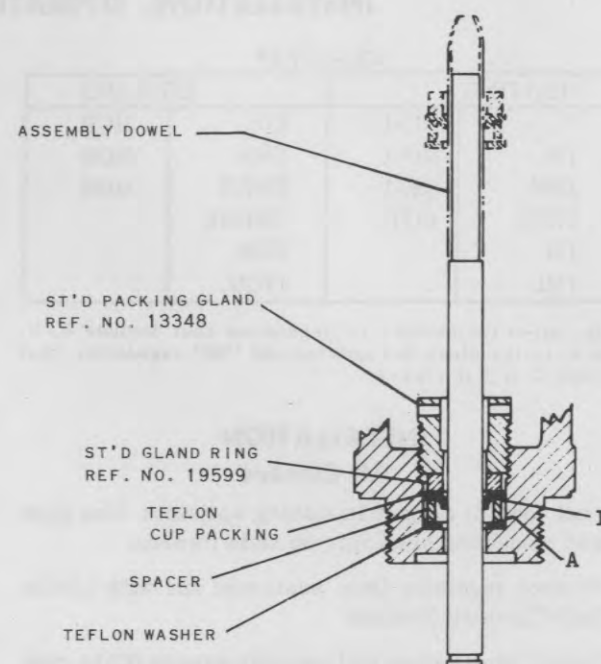

FIG. 2 Assembled Teflon Stuffing Box
3. Replace valve stem in bonnet and assembly dowel over stem. Slide washer, spacer, cup packing and gland ring as shown in Fig. 2 over stem into box.